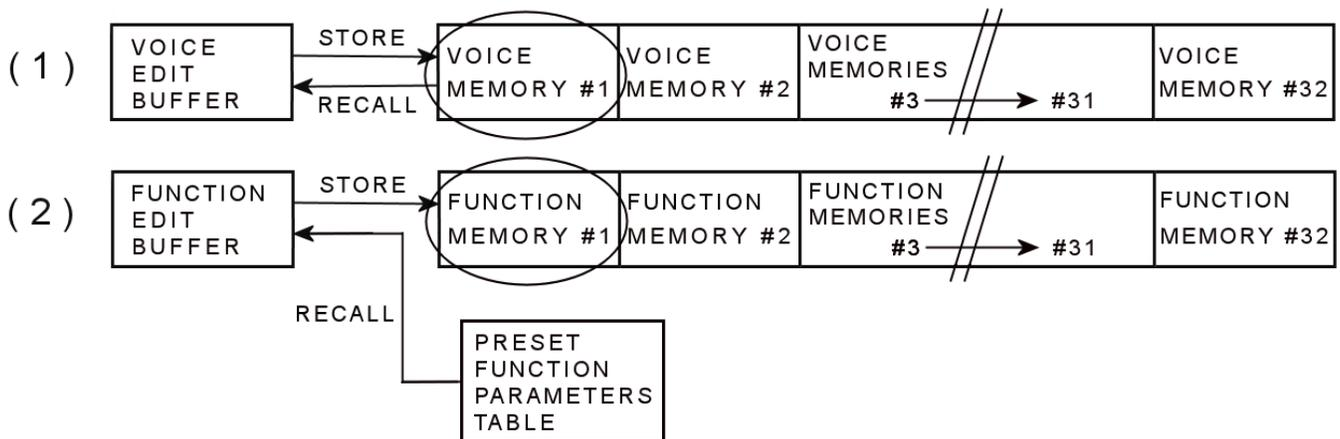

FIGURE 17
The PRESET FUNCTION PARAMETER settings are listed in the INITIALIZED FUNCTION PARAMETER CHART of **APPENDIX C** on Page 39. The PRESET FUNCTION PARAMETER settings are NOT saved to the specific VOICE that you selected to FUNCTION EDIT until you manually store them back. This will allow you to EDIT particular FUNCTION PARAMETERS while the others remain at their PRESET conditions. Once you have EDITED the PARAMETERS that you wanted, then you can store the VOICE along with its FUNCTION PARAMETERS, from the EDIT BUFFER, to the desired MEMORY location. If you want to change the name of the VOICE before storing it back, you would have to press the EDIT/COMPARE SWITCH and the VOICE NAME parameter (MEMORY SWITCH #32). For example, referring to **FIGURE 17**, if you selected the VOICE stored at MEMORY SWITCH #1, when you implement the SINGLE FUNCTION INITIALIZE JOB, two things will happen; (1) the VOICE PARAMETERS are RECALLED to the VOICE EDIT BUFFER AREA and (2) the PRESET FUNCTION PARAMETER settings are INITIALIZED or SAVED to the FUNCTION area of the EDIT BUFFER.